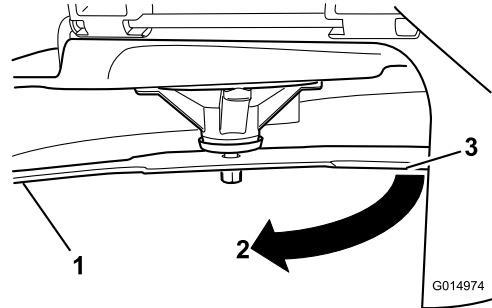

**Figure 55**
2. While wearing thickly padded gloves, or other adequate hand protection, slowly rotate the blade into a position that allows you to measure the distance between the cutting edge and the level surface the machine is on (Figure 55).